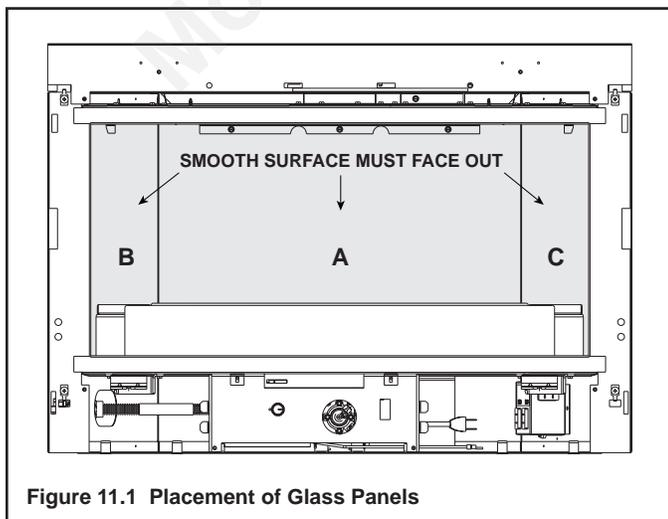
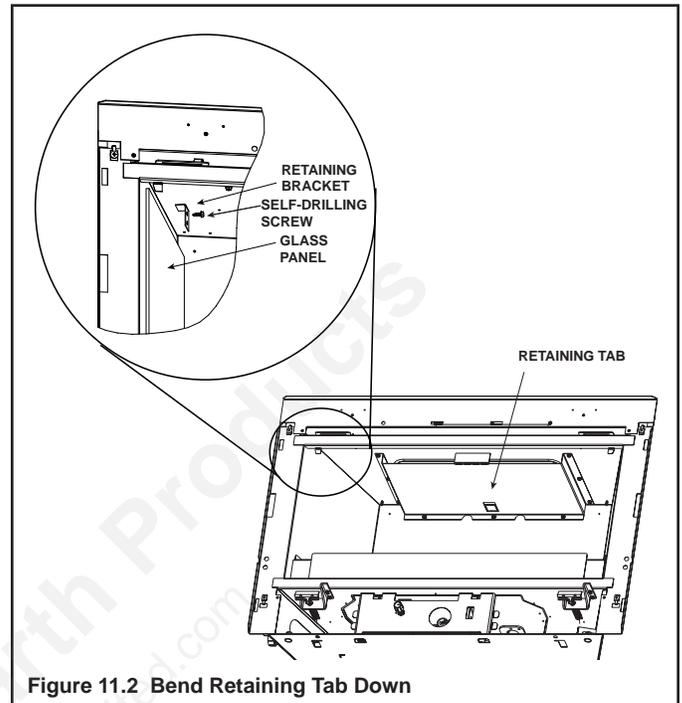

Figure 11.1 Placement of Glass Panels
Figure 11.2 Bend Retaining Tab Down
- Install back glass panel (see Figure 11.1). Bend retaining tab down to hold back glass panel in position (see Figure 11.2).
- Install left glass panel (see Figure 11.1). Install retaining bracket with the self-drilling screw provided to hold the left glass panel in position (see Figure 11.2).
- Install right glass panel (see Figure 11.1). Install retaining bracket with the self-drilling screw provided to hold the right glass panel in position (see Figure 11.2).